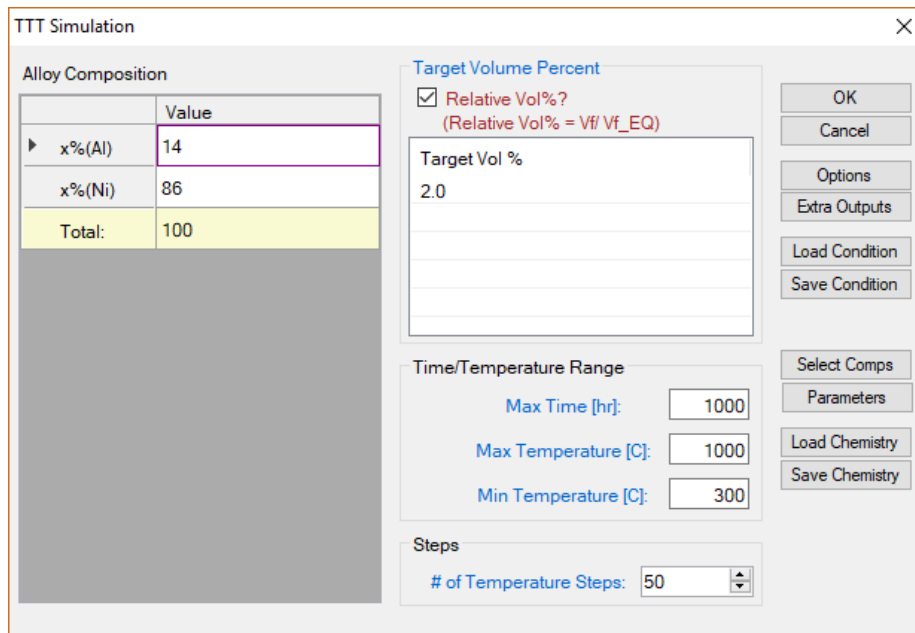

Figure 3.2.1: Setup a calculation of TTT curve for Ni-14Al (at%)
- Click on PanPrecipitation on the menu bar and select TTT Simulation, a dialog will pop out as shown in Figure 3.2.1. In this dialog, user needs to input the alloy chemistry (left), temperature range and step (bottom right) and the Target volume fraction (top right). If the "Relative Vol%" box is checked, it means the Target Vol% is relative to the equilibrium fraction of the precipitate phase at each temperature, otherwise it is the volume fraction of the precipitate phase;